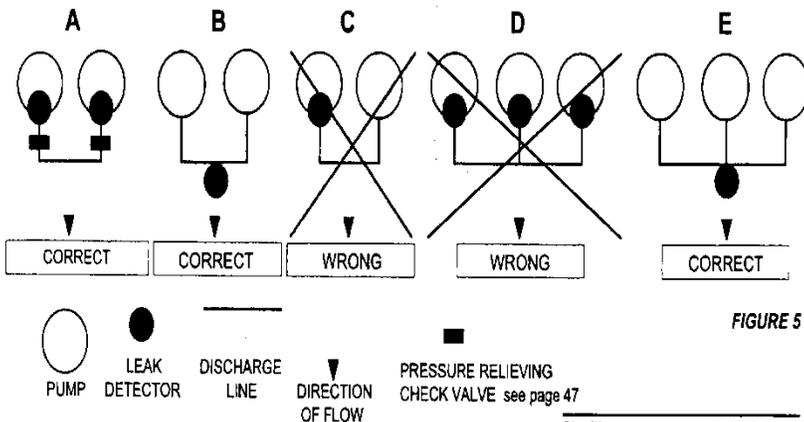

FIGURE 5
c. Assuming that the leak detectors were mounted directly in Red Jacket pumps, or in 038-072 housing as close to the discharge of the pumps as possible (Figure 5), most of the discharge line would be monitored by the leak detector as the leak detector monitors the discharge line downstream from itself.